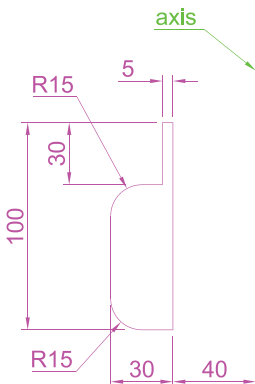

Fig. 14.8 Example of constructing as 3D model – outline for solid of revolution
- Construct the outline to be formed into a solid of revolution (Fig. 14.8) on a layer colour magenta, and, with the **Revolve** tool, produce the 3D model of the outline.